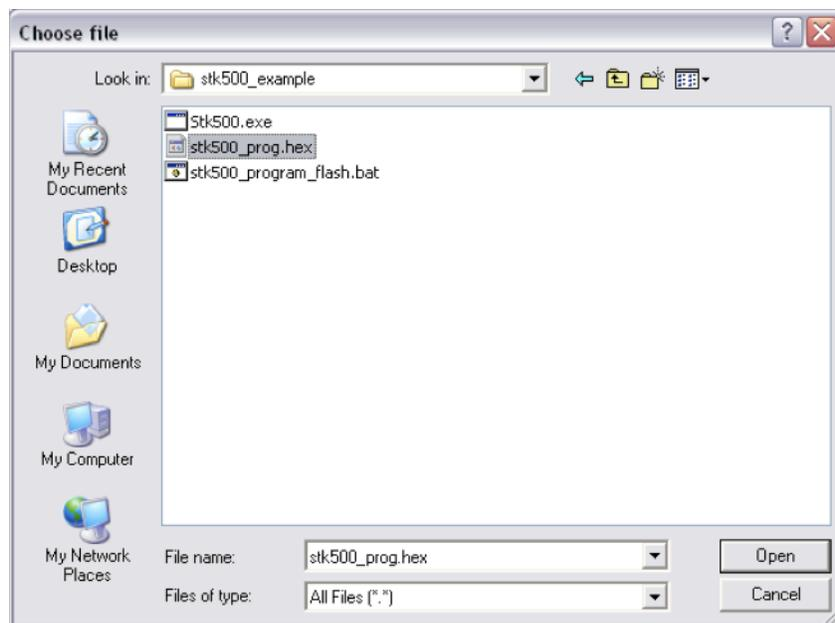

Figure 4.50 Screenshot of the “Choose file” window used by Internet Explorer to select a file to upload to a website.
- 4.4.4.5** Within the pop-up window for choosing a file, go to the directory that contains the desired HEX file (e.g. Figure 4.50) and double-click on it to select it.